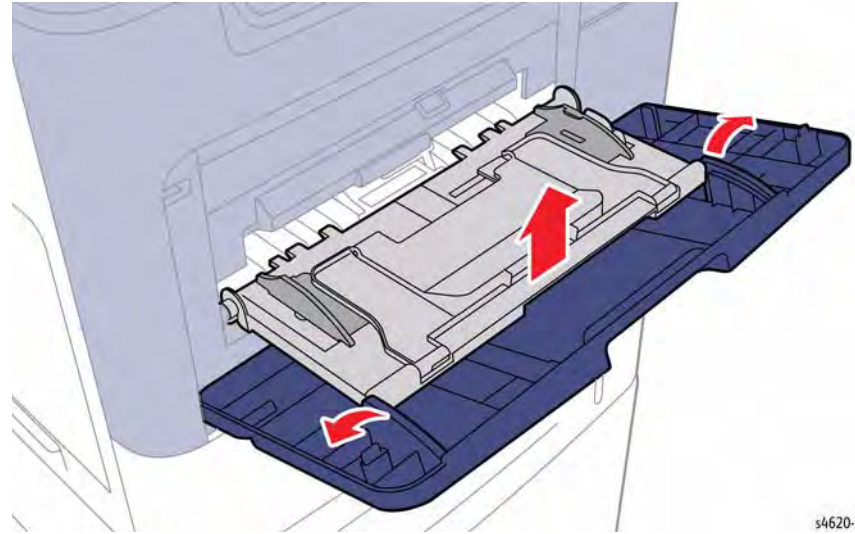

Figure 1 Release the Tray 1 guide from the cover
2. Release the Tray 1 guide (PL 28.20 Item 4) pins from the Tray 1 cover, Figure 1.